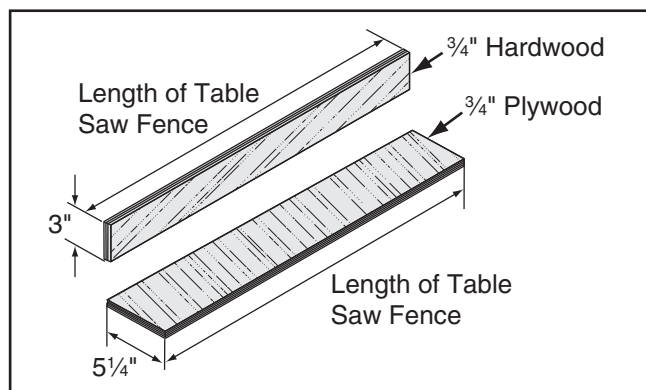

Figure 108. Auxiliary fence dimensions.
1. Cut a piece of $\frac{3}{4}$ " thick plywood $5\frac{1}{4}$ " wide and as long as your table saw fence; cut a piece of $\frac{3}{4}$ " thick hardwood 3" wide and as long as your table saw fence, as shown in **Figure 108**.